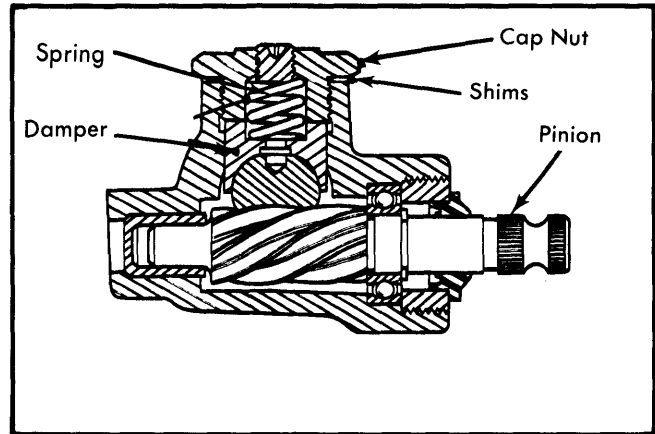

Fig. 4 Rack Damper Assembly
6) Install rack damper, shims, spring and cap nut. Check rack side play (90° to shaft axis) is within .004-.008" (.1-.2 mm). Adjust as required by adding or subtracting shims (Fig. 4), then reconnect ground strap (if removed).